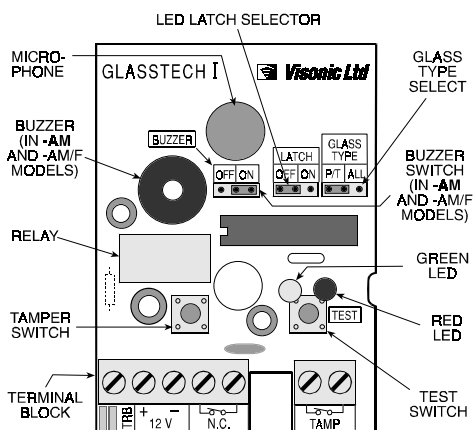

Figure 5. Printed Circuit Board Layout
- C.** Insert a screwdriver blade into the slot at the right side of the PCB (see Figure 5) and dislodge the printed circuit board from the right-side retaining tab. Remove the printed circuit board
3.7 Setting the Jumper Links (Fig. 5)